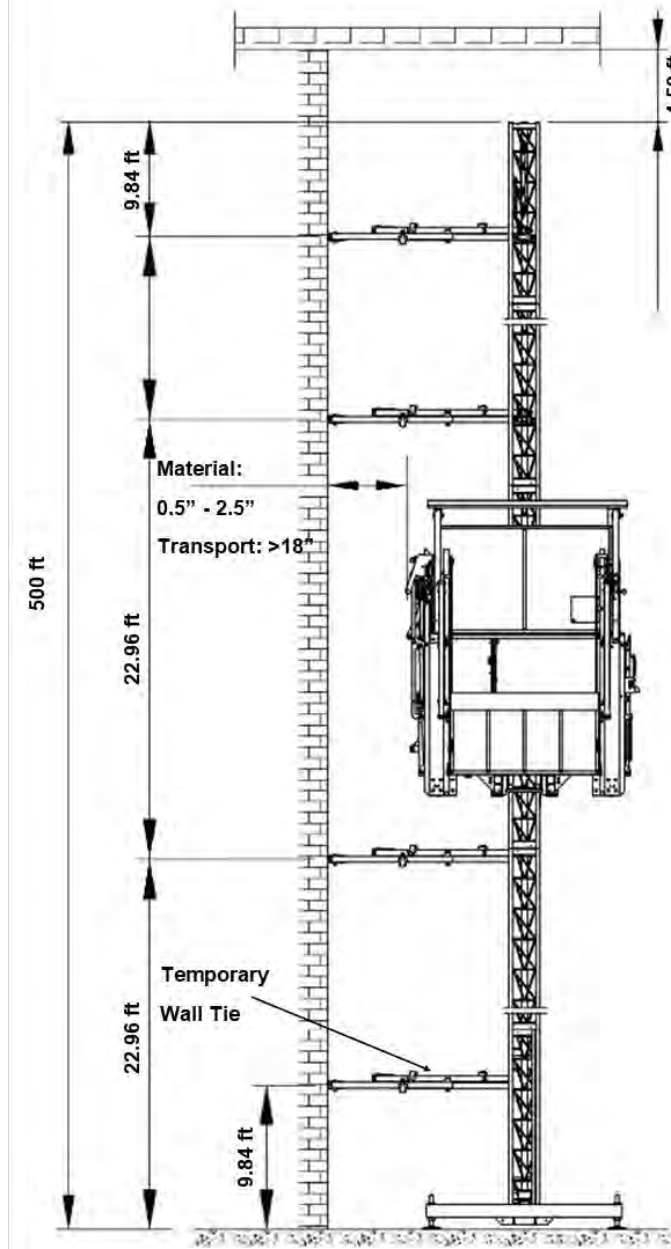

Figure 4.3
- Figure 4.3, the first wall anchor is set at 9.84 ft from the base and is a temporary wall anchor to be removed after other wall anchors are installed, the next wall anchor is set 22.96 ft from the base and is the first of the permanent wall anchors, the subsequent anchors after this wall anchor are spaced at a maximum interval of 22.96 ft. The topmost part of the mast after the last anchor cannot and must not exceed 9.84 ft.